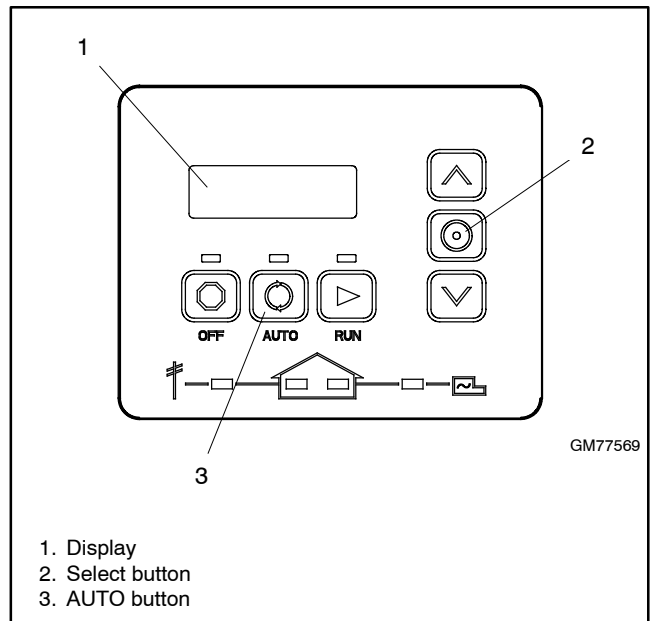

Figure 3-3 RDC2 Controller User Interface
1. Press the Select button to enter the main menu. See Figure 3-3 and Figure 3-4. The Overview screen will be displayed.